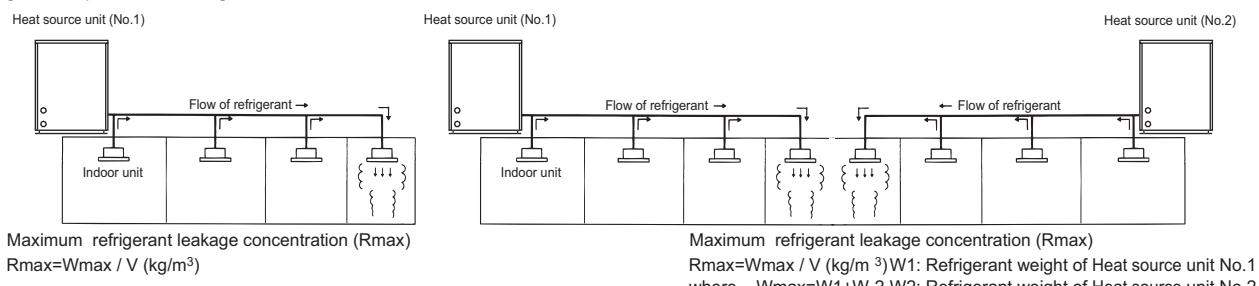

Fig. 13-1 The maximum refrigerant leakage concentration
The maximum refrigerant leakage concentration (R_{max}) is defined as the result of the possible maximum refrigerant weight (W_{max}) leaked into a room divided by its room capacity (V). It is referable to Fig. 13-1. The refrigerant of Heat source unit here includes its original charge and additional charge at the site.